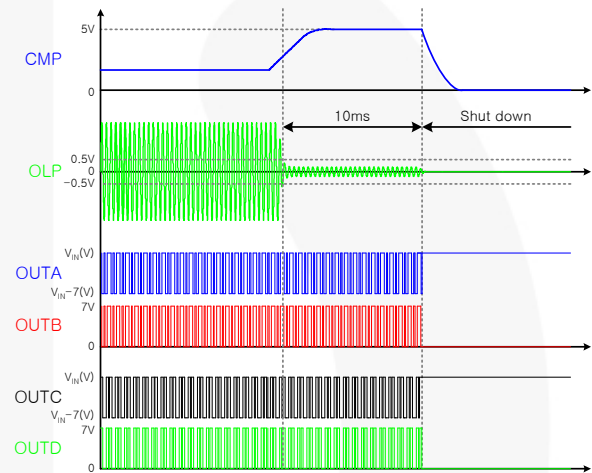

**Figure 50. Arc Protection**
**Arc Protection:** If the maximum of the rectified OLR input voltages ( $V_{OLR}^{max}$ ) is higher than 3V, the IC enters shutdown mode without delay, as shown in Figure 50.